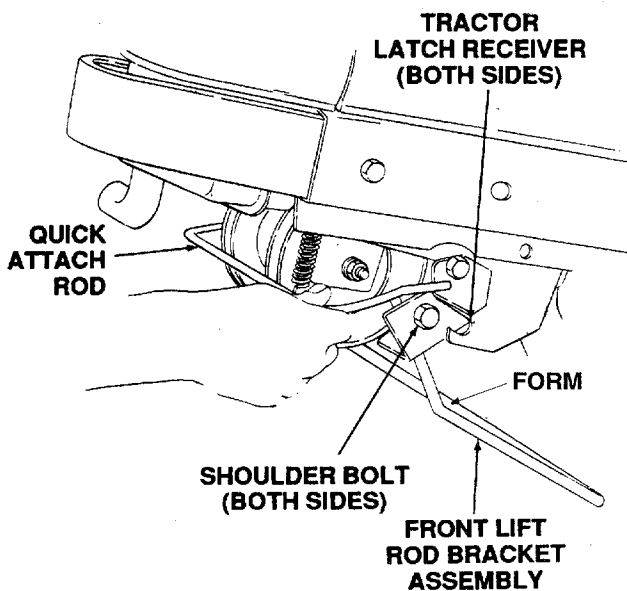
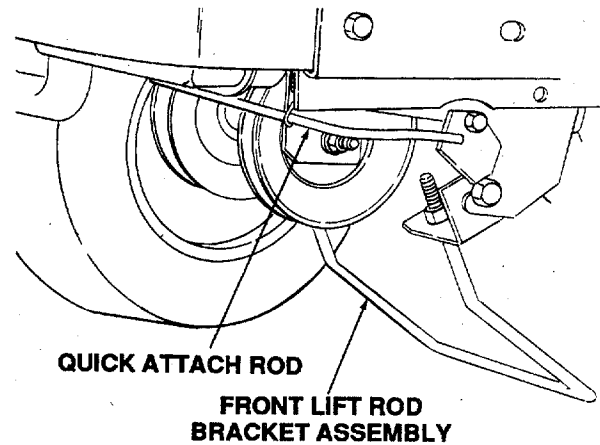

Figure 48
Figure 49
4. Refer to Figure 48 to ensure the correct orientation of the front lift rod/bracket assembly [form (bend) in sides of rod point downward]. From the front of the tractor, push downward and hold the tractor quick-attach rod. Slide the shoulder bolts on each side of the front lift rod/bracket assembly fully into the left and right tractor latch receivers. Release the tractor quick-attach rod to capture the front lift rod/bracket assembly in the tractor latch receivers (Refer to Figure 49).